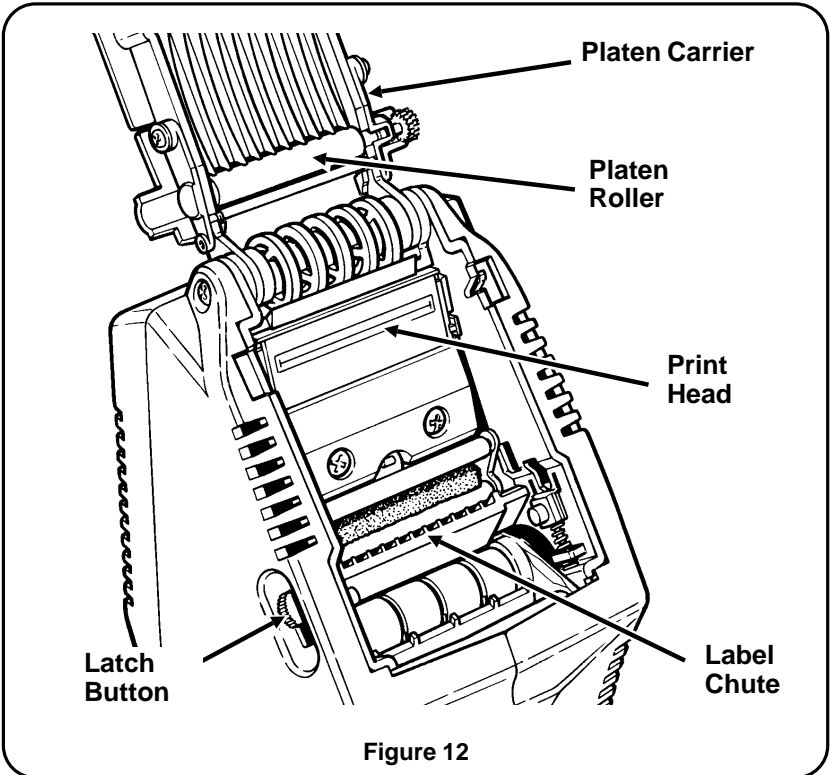

Figure 12
2. Slide both latch buttons (Figure 12) to the rear twice and release them to **completely** open the platen carrier.
5. Clean the print head area (Figure 12) of all adhesive and label particles.